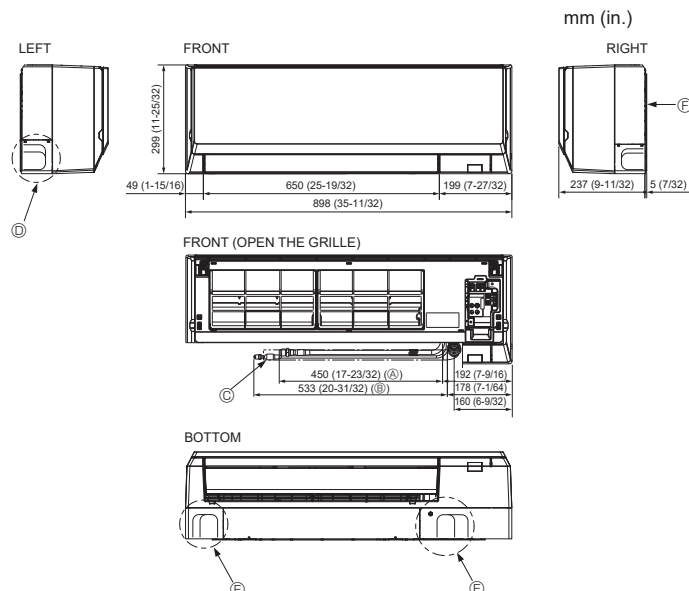

Fig. 4-3
4.3. Positioning refrigerant and drain piping (Fig. 4-3)
- (A) Gas pipe
- (B) Liquid pipe
- (C) Drain hose (Effective length: 500 mm, 19-11/16 in.)
- (D) Left-side piping knockout hole
- (E) Right-side piping knockout hole
- (F) Lower piping knockout hole
- (G) Mount board (H)